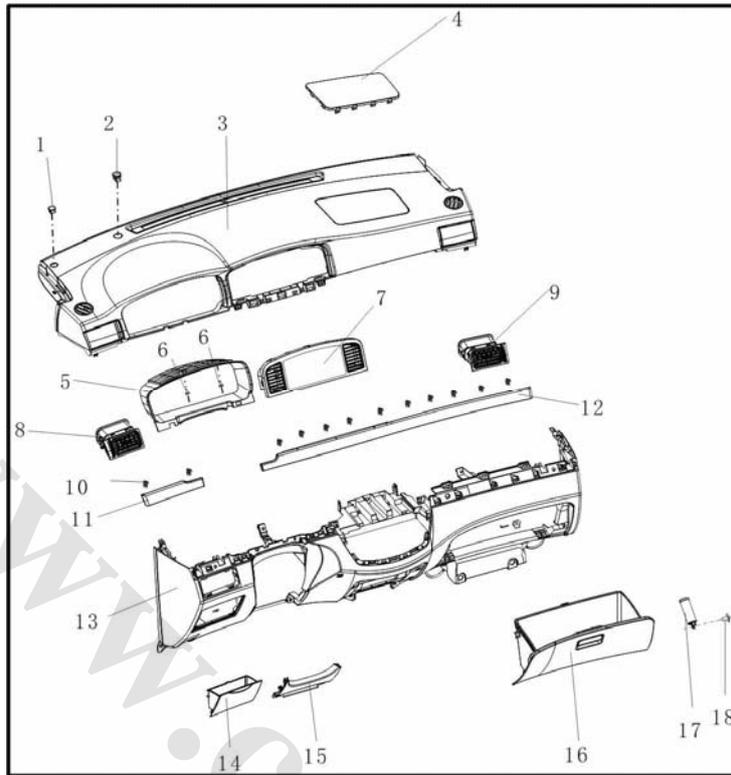

Fig. 7-36
X. Main instrument desk, as shown in Fig. 7-36